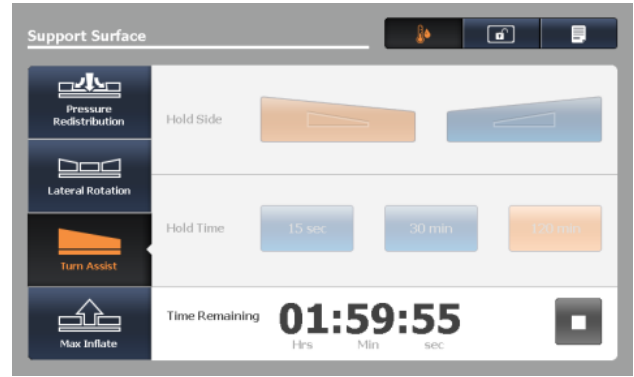

Figure 56 – Turn assist time remaining
**Note** - When inflation is complete, the Turn Assist time remaining window is displayed and the selections are gray (Figure 56). The timer will count down to zero and then the support surface deflates.